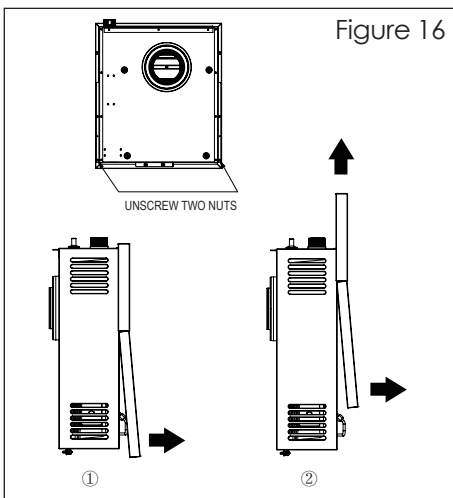

Figure 16
1. Separate the front panel of the appliance by removing the two nuts in the bottom and sliding it up as shown in figure 16.